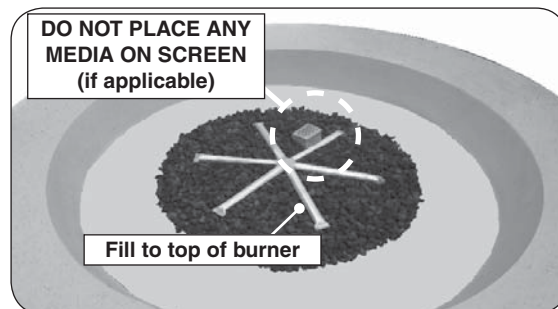
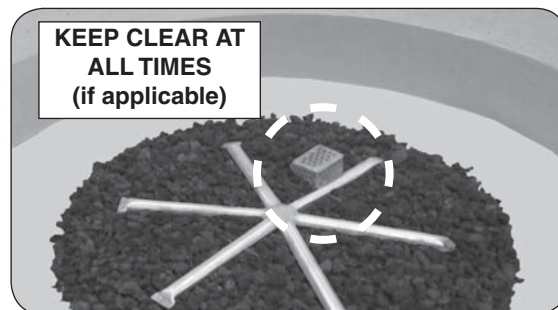

Fig. 33-1 Place lava granules
Fig. 33-2 Screen detail (if applicable)
1. Pour the 10 lb bag of lava granules into the burner area (with the exception of the screen - if applicable). Spread the granules within the burner area as shown in Fig. 33-1 and Fig. 33-2. **Only fill the granules up to the top of the burner tube.**
**Note:** Select 12" star burner models only require half of the lava granules bag. **Do not overfill.** See Fig. 33-1 and Fig. 33-2.